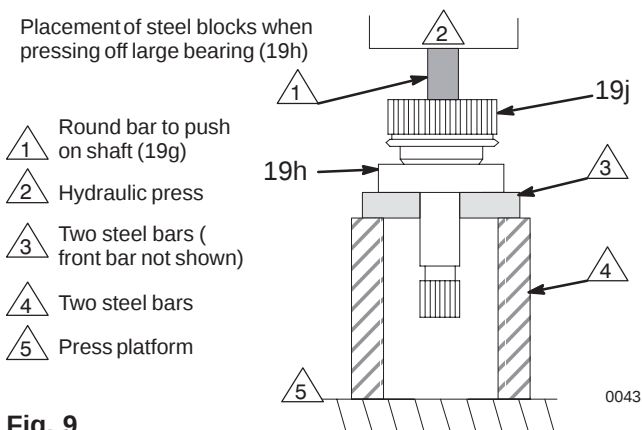

Fig. 9
4. **Using a press**, place pieces of steel bar stock on the inner race of the large bearing (19h) and press the shaft through the hub and bearing. See Fig. 9.